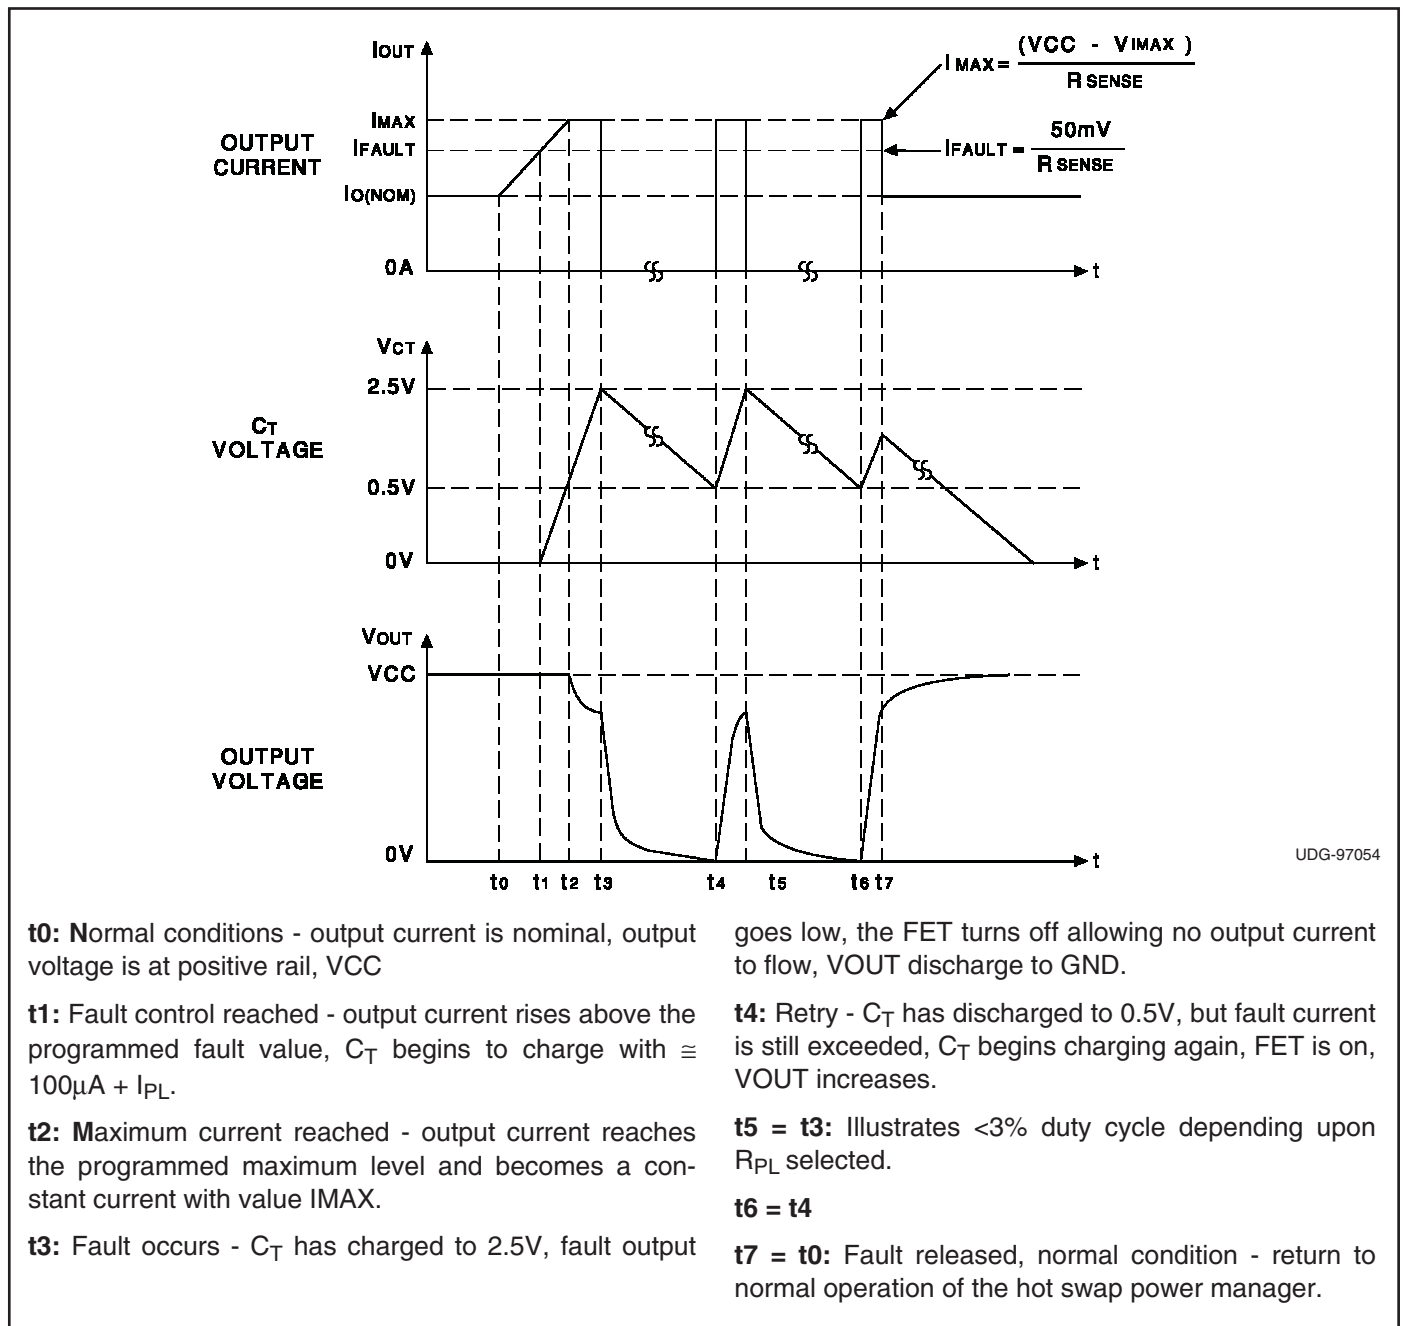

Figure 3a: Typical timing diagram.
Fig. 3a shows typical fault timing waveforms for the external NMOS output current, the voltage on the CT pin, and the output load voltage, V_{OUT} , with LR left floating or grounded. The output voltage waveforms have assumed an RC characteristic load and time constants will vary depending upon the component values. Prior to time t_0 , the load is fully charged to almost VCC and the NMOS is supplying the current, I_O , to the load. At t_0 , the current begins to ramp up due to a change in the load conditions until, at t_1 , the fault current level, I_{FAULT} , has been reached to cause switch S1 to close. This results in C_T
Fig. 3b shows fault timing waveforms similar to those depicted in Fig. 3a except that the latch reset (LR) function is utilized. Operation is the same as described above until t4 when the voltage on C_T reaches the reset threshold. Holding LR high prevents the latch from being reset, preventing the IC from performing a retry (sourcing current to the load). The UC3914 is latched off until either LR is pulled to a logic low, or the chip is forced into an under voltage lockout (UVLO) condition and back out of UVLO causing the latch to automatically perform a power on reset. Fig. 3b illustrates LR being toggled low at t5, causing the part to perform a retry. Time t6 again illustrates what happens when a fault is detected. The LR pin is toggled low and back high at time t7, prior to the voltage on the C_T pin hitting the reset threshold. This information tells the UC3914 to allow the part to perform a retry when the lower reset threshold is reached, which occurs at t8. Time t9 corresponds to when load conditions change to where a fault is not present as described for Fig. 3a.